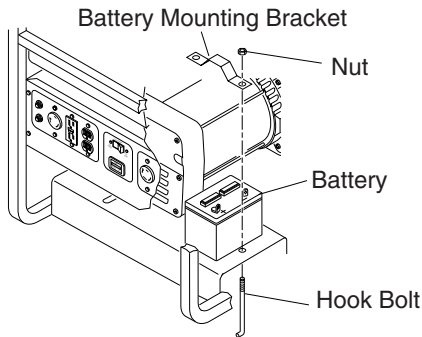

Figure 12 - Battery Hold-Down System (Model MGH6500IE Shown)
1. Secure battery to generator by battery hold-down system. This system consists of the battery mounting bracket, hook bolts, and nut (see Figure 12).